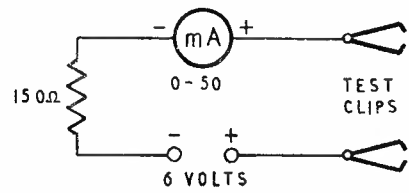

FIG. 1.
STEP 1. Connect the circuit as shown in Fig. 1.